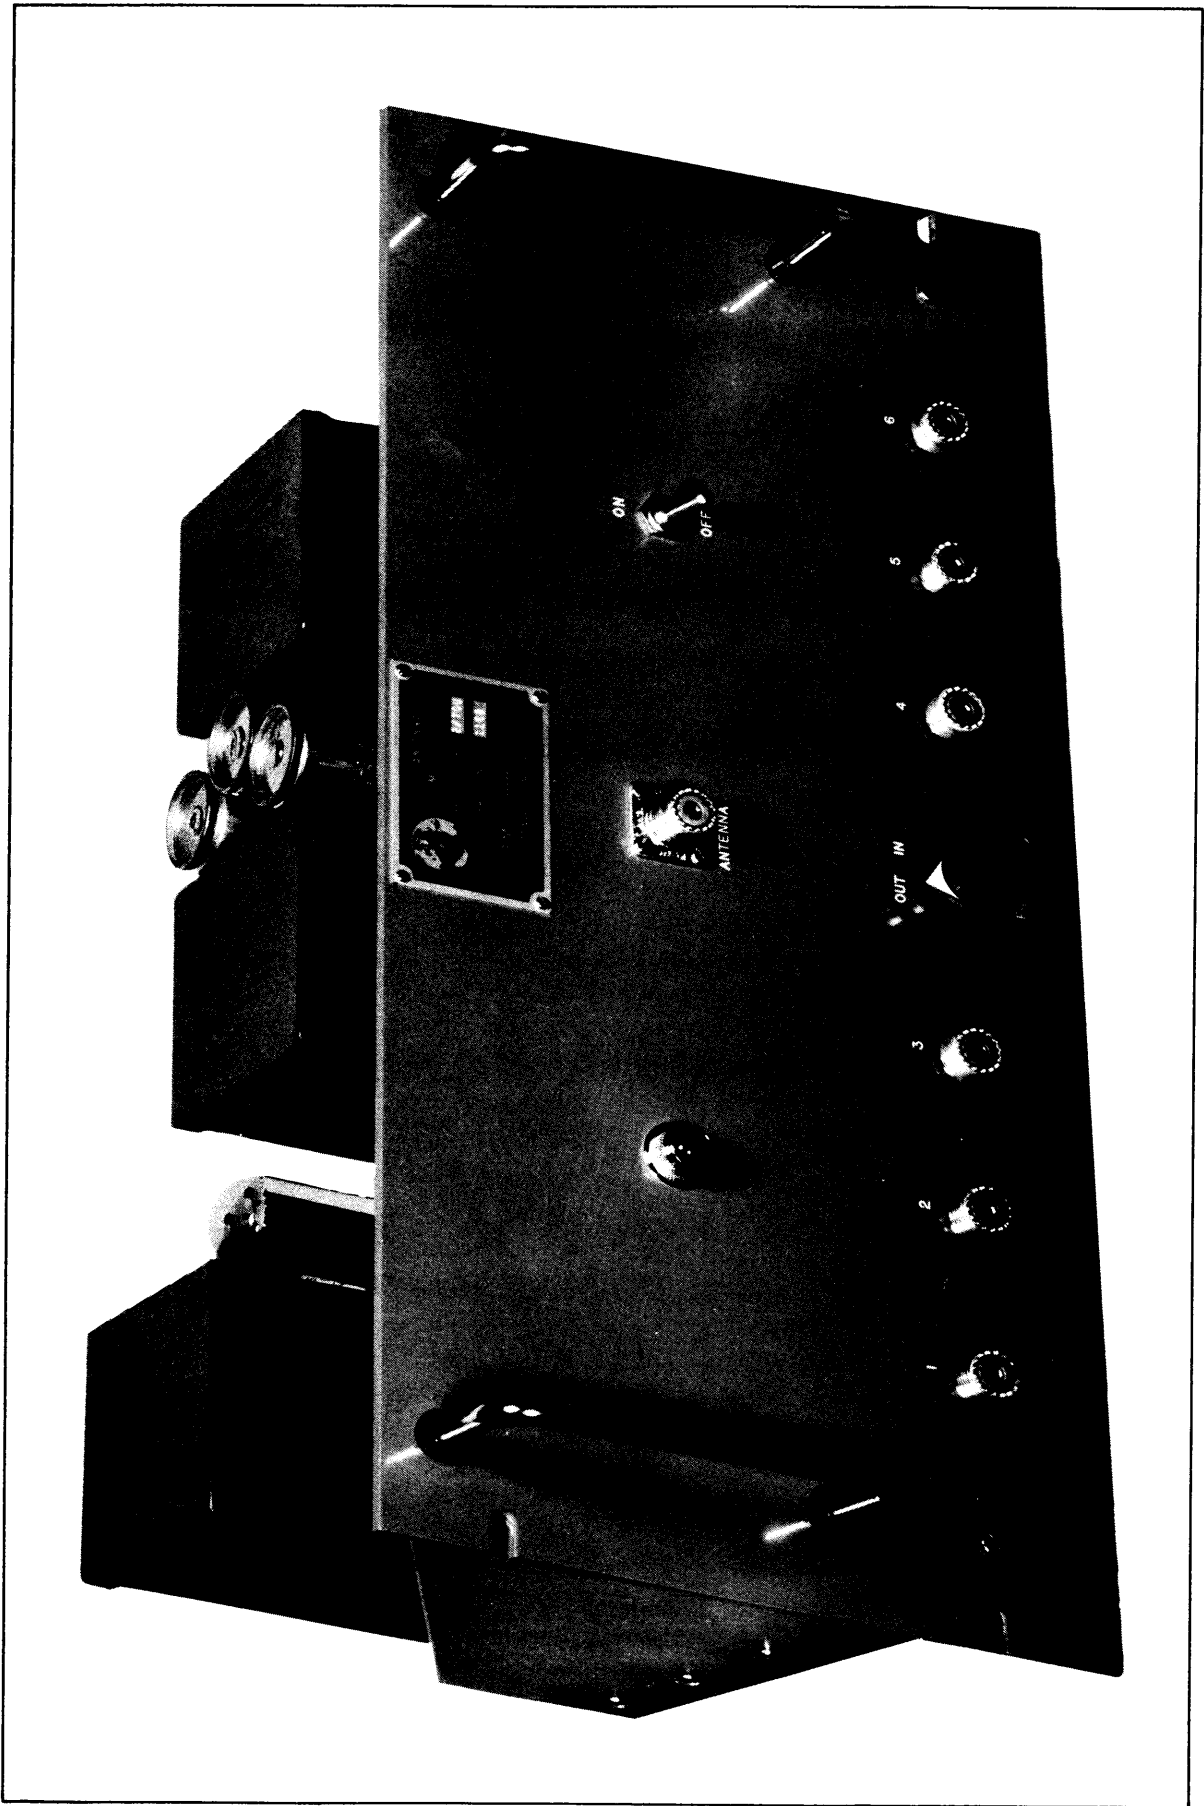

Figure 1-1 FRONTPIECE, AMC 6-2
b. The Model AMC 6-2 and AMC 6-3 is intended for rack mounting. It is provided with a standard rack panel (as shown in Figure 1-1) which measures $8\frac{3}{4}$ inches in height and 19 inches in width. The only front panel controls are the power ON/OFF switch and the FILTER IN/OUT switch. All coaxial jacks carrying RF signals to or from the unit are available on the front panel. (On special order, the unit can be supplied with the output jacks in the rear.) An additional coaxial jack is available immediately behind the front panel where a rear antenna connection is required. A chassis which mounts the main electrical components is shown in Figures 1-2 and 1-3. It is held securely to the front panel by side brackets and occupies a rack depth of 11 inches. The DC power supply occupies the rear half of the chassis while the broad-band amplifier circuit occupies the front half. Power to the unit enters a socket on the rear apron of the chassis as shown in Figure 1-4, while the main power fuse is located immediately to the left of this socket. Total weight of the unit is 49 pounds.